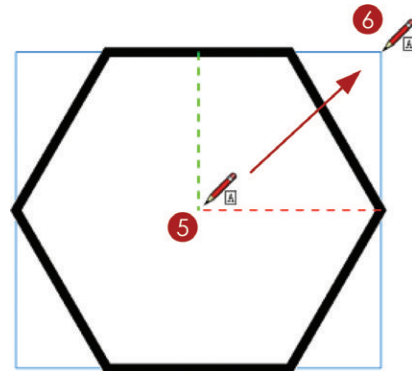

Figure 13.15 Add text to the window tag.
5. Activate the Text tool. Hover on the top and side center points to encourage an inference. While holding the Ctrl key (Option on Mac), click and hold on the inferred center point of the hexagon (Figure 13.15).